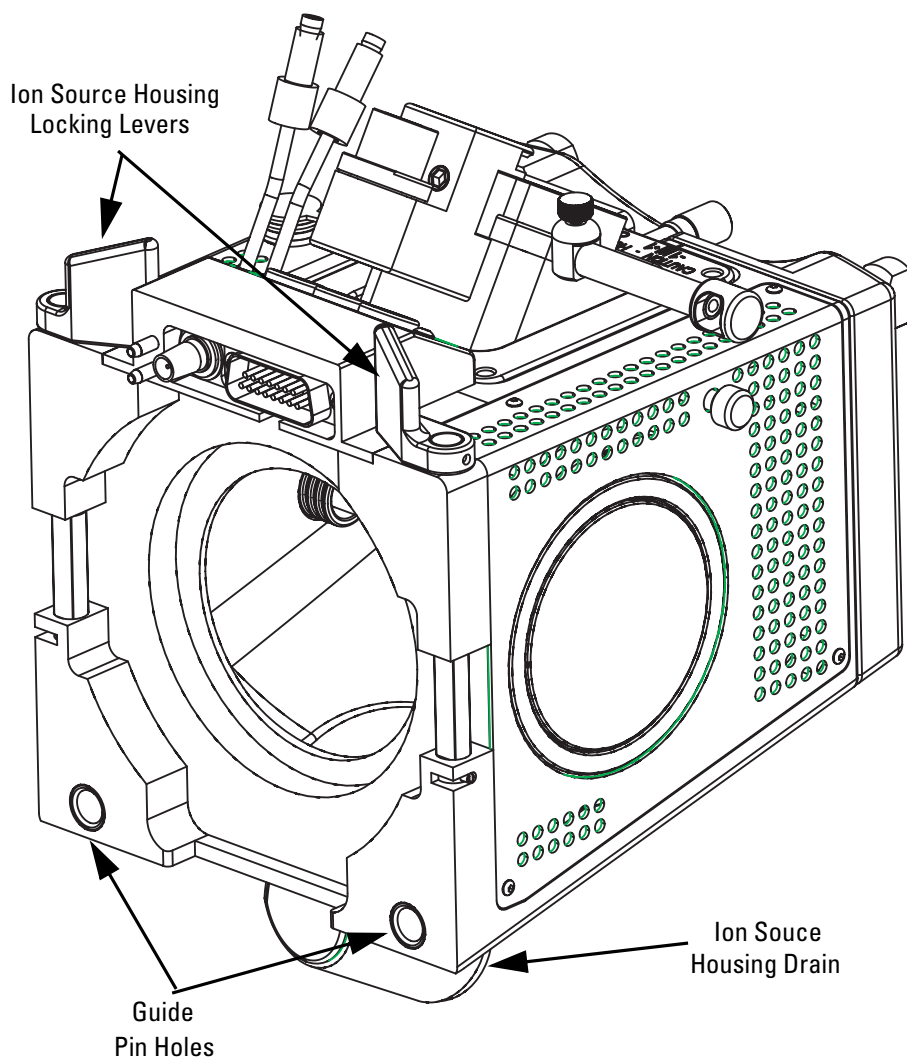
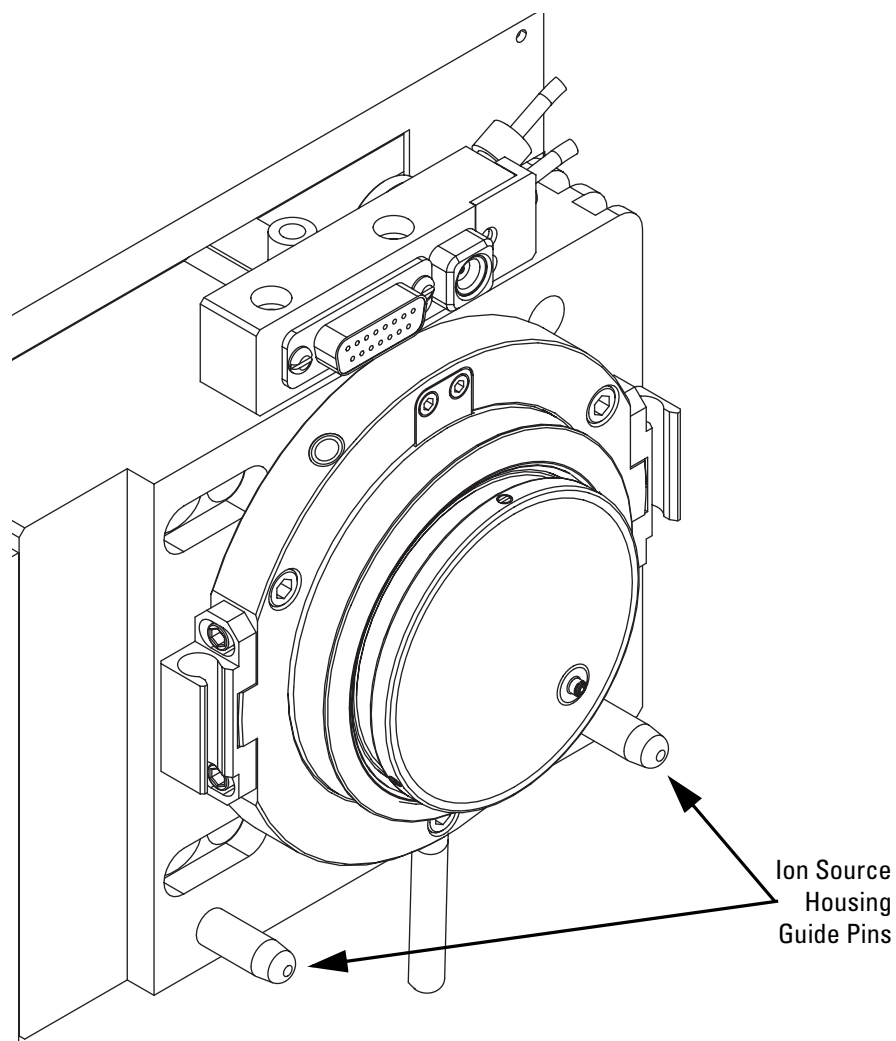

Figure 6-5. Rear view of the Ion Max ion source housing
Figure 6-6. Ion source mount showing ion source housing guide pins
1. Carefully align the two guide pin holes on the rear of the ion source housing with the ion source housing guide pins on the mass spectrometer, and carefully press the ion source housing onto the ion source mount. See Figure 6-5 and Figure 6-6.